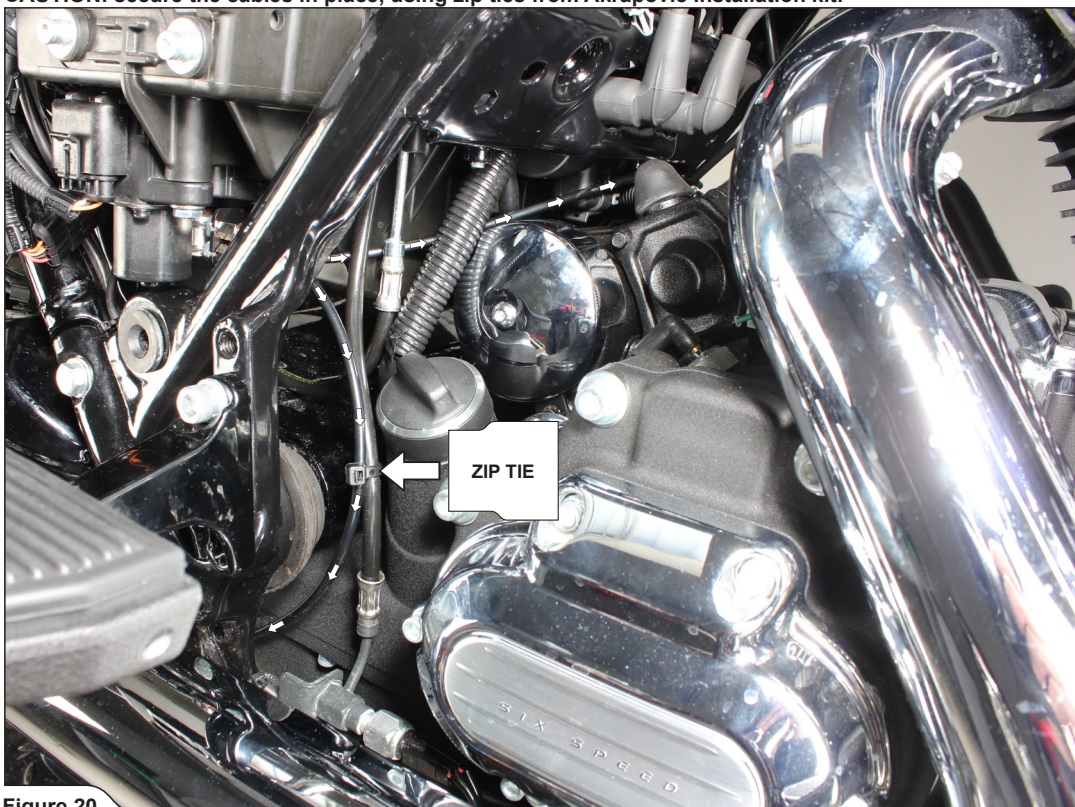

Figure 20
6. Install and secure the cables as shown (**shorter cable:** to the right side ; **longer cable:** to the left side) (Figure 20, 21, 22, 23, 24).